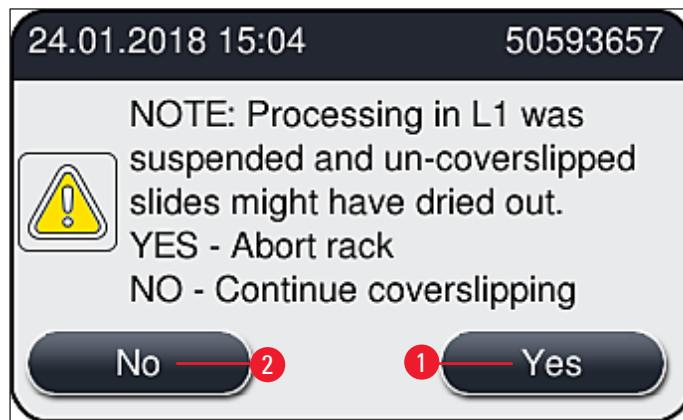

Fig. 112
9. The instrument software performs a fill level scan. The user receives an information message when the check is finished ( $\rightarrow$  Fig. 112).